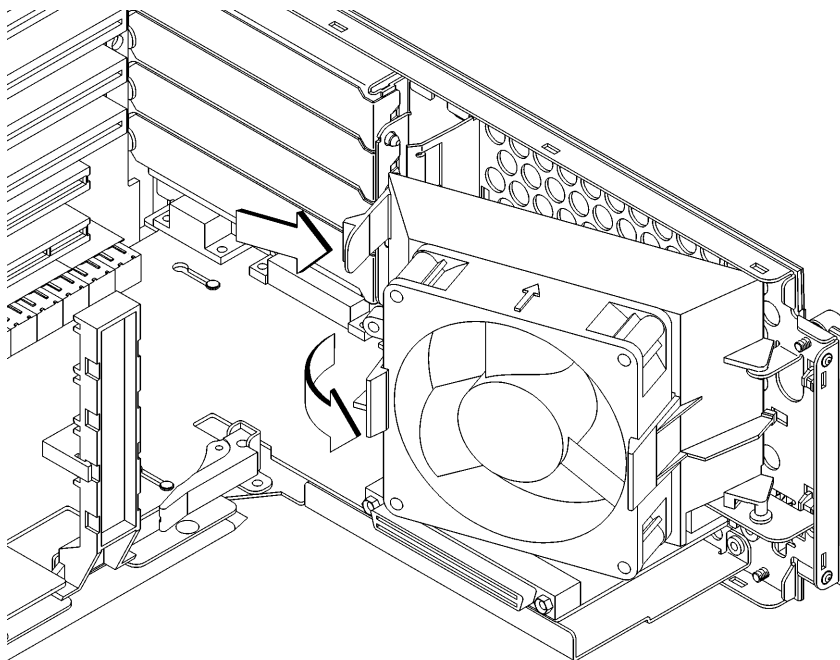

Figure 5
- 1 Press the fan release clip and rotate the fan, as shown in Figure 5.